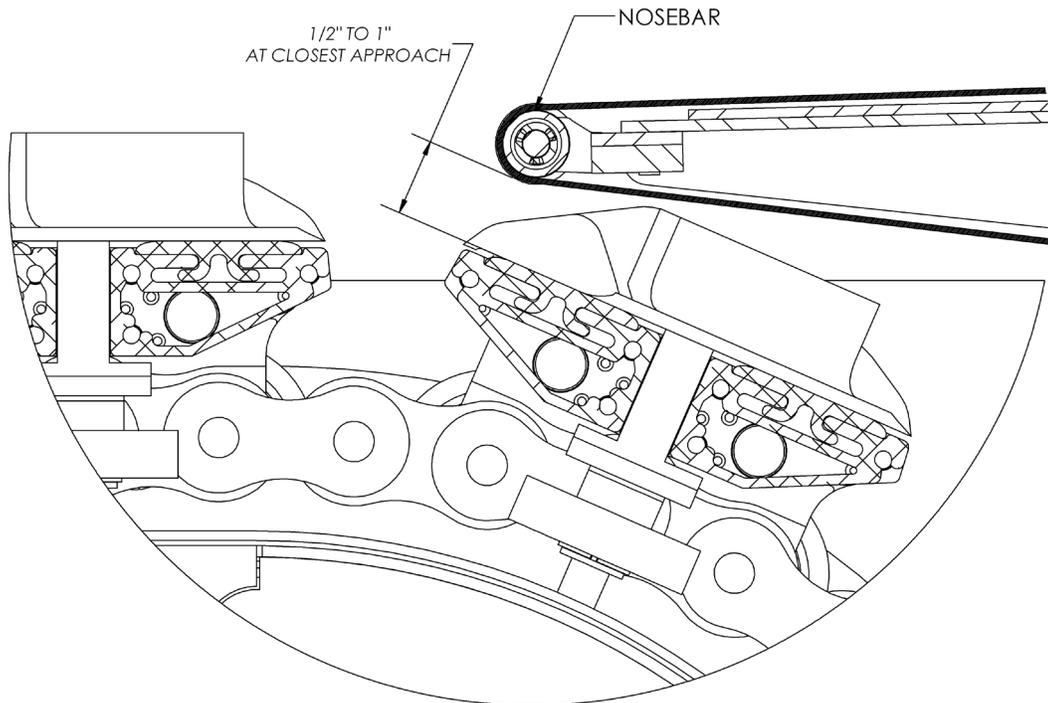

Figure 12-Knife Edge Nosebar Positioning Detail
4. Adjust the nosebar horizontal and vertical position to match the position shown in Figure 12.
- a. Note that the spacing between the knife edge and the slat surface must be measured with the slat at its closest approach, which will be when the outside edge of the slat is lined up with the knife edge bearing. See Figure 12 for details.